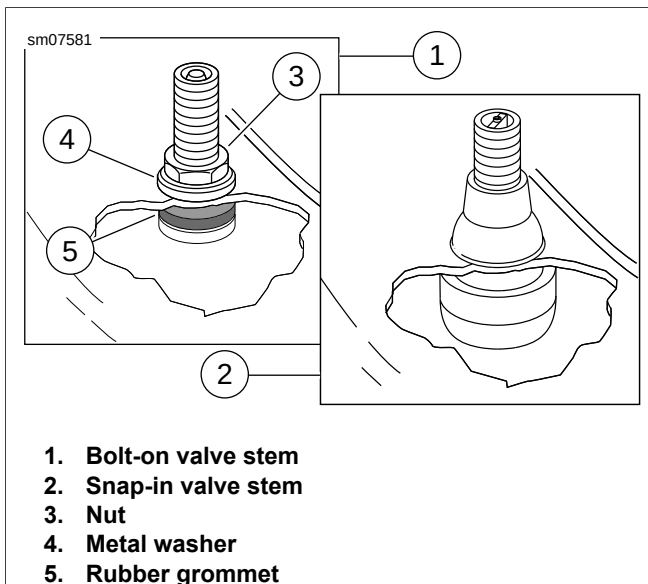

Figure 2-32. Tubeless Tire Valve Stems
1. See Figure 2-32. Install rubber grommet (5) on valve stem.
3. Install metal washer (4) and nut (3).